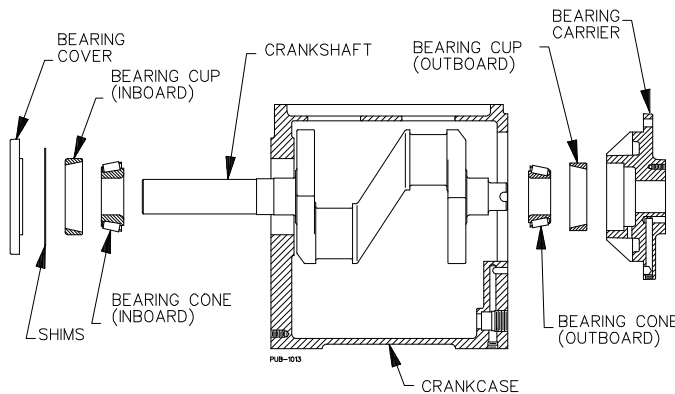

Figure 14 - Bearing Locations
- b. Referring to Figure 14 for the proper orientation, carefully press the inboard bearing cup into the crankcase until it is flush with the outer surface of the crankcase.